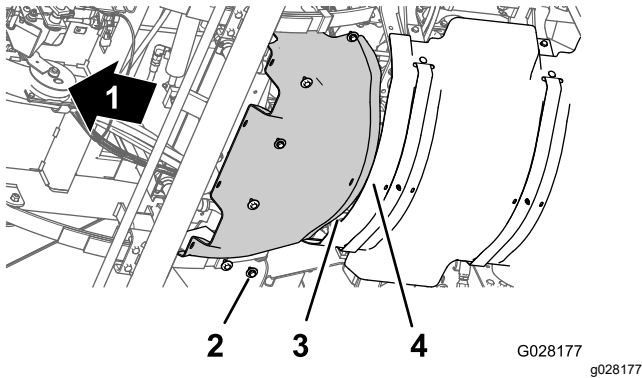

Figure 66
1. Align the rear flange of the forward heat shield over the forward flange of the rear heat shield (Figure 66).
2. Align the holes in the forward heat shield with the threaded holes in the chassis (Figure 66).
3. Assemble the forward heat shield to the machine with the 6 hex-head bolts and 6 washers (Figure 66) that you removed in step 3 of Removing the Forward Heat Shield (page 52).